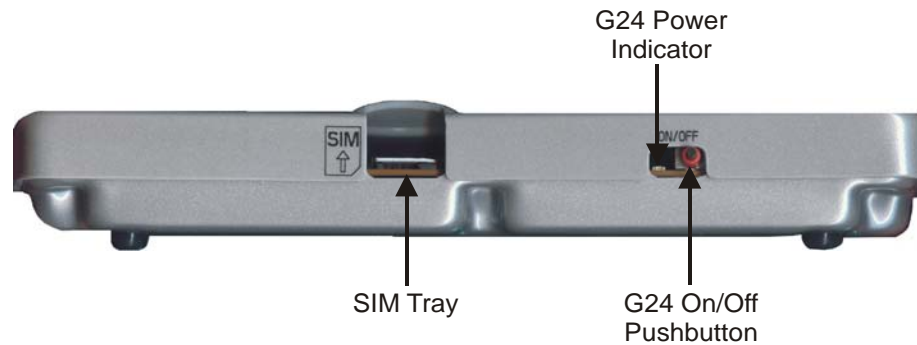

Figure 2-6: G24 On/Off Pushbutton and Power Indicator LED
2. Turn on the G24 power by pressing the On/Off pushbutton (S110) for at least 0.5 seconds (Figure 2-6).